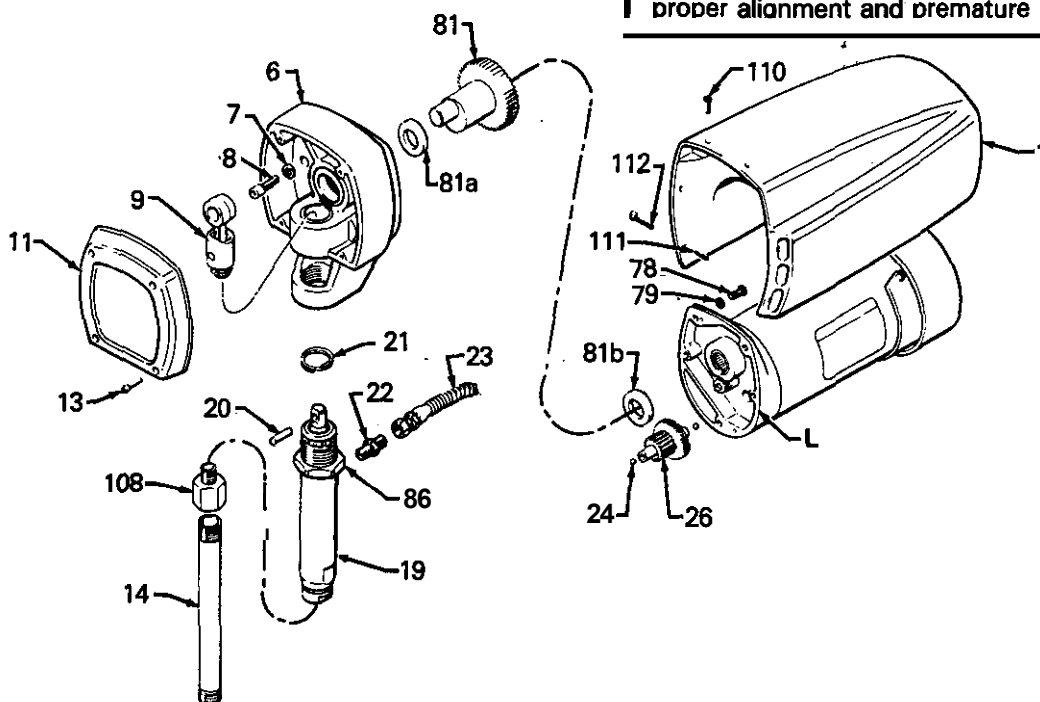

Fig 25
## CONNECTING ROD, DRIVE HOUSING, or CRANKSHAFT REPLACEMENT (See Fig 25)
19. Install the connecting rod (9).
20. Screw the displacement pump about 3/4 of the way into the bearing housing (6). Hold the pin (20) up to the pin hole in the connecting rod assembly (9) and continue screwing in the pump until the pin slides easily into the hole. Back off the pump until the top threads of the pump cylinder are flush with the face of the bearing housing and the outlet nipple (22) is facing back. Push the retaining spring (21) into the groove all the way around the connecting rod. Tighten the jam nut (86) to 94 N·m (70 ft-lb) —very tight to prevent it from loosening which will damage the bearing housing. See Figures 25 and 26.